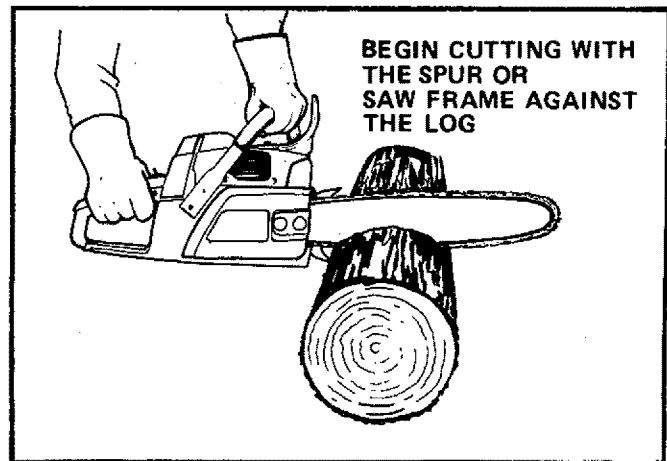

Figure 15
- Begin cutting with the saw frame or spur against the wood.** Figure 15.